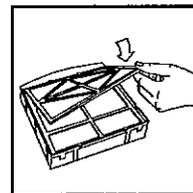

Fig. 8
- Remove the permanent pre-filter (Fig. 8).